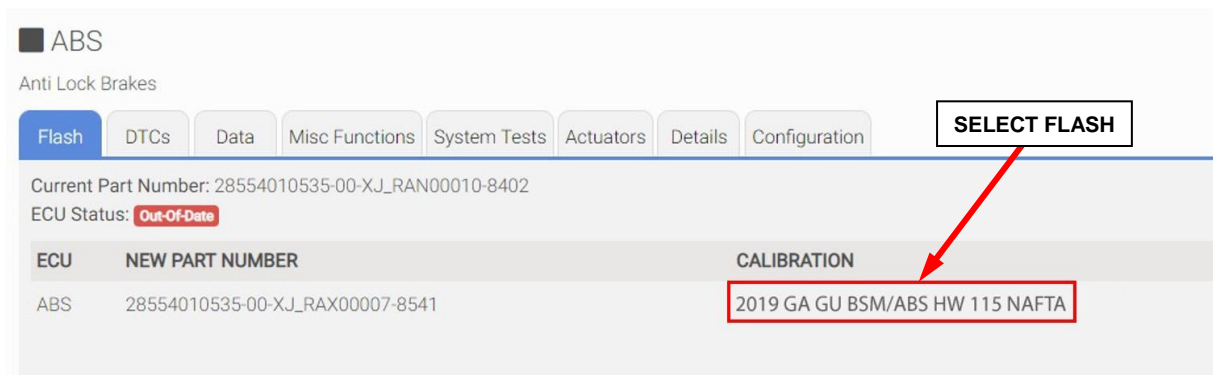

Figure 36 – Flash ABS / BSM “2019 GA GU BSM/ABS HW 115 NAFTA”
11. From the ABS flash tab, select the ABS flash “**2019 GA GU BSM/ABS HW 115 NAFTA**” and proceed with the reprogramming procedure (Figure 36).